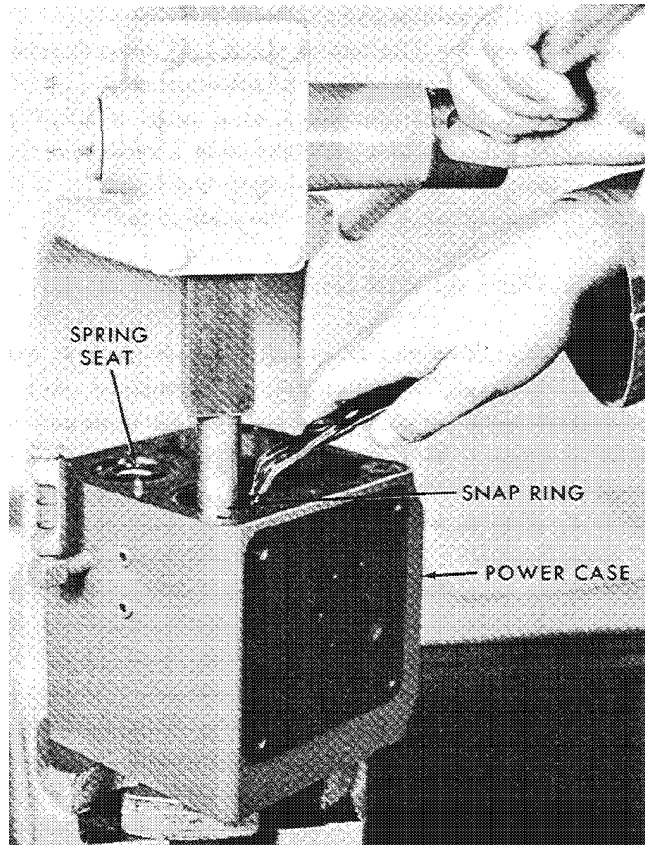

Figure 3-4
6. Remove screws (50) and washers (49). Lift off base (48) taking care that idler gear (45) and drive gear (43) do not fall out. Remove the idler gear and drive gear.
7. Set the power case (32), bottom end (end with idler stud 44) down, in an arbor press or small drill press. With a rod against spring seat (28), compress accumulator springs (29) and (30) to permit removal of upper snap ring (27). See Figure 3-4. Remove spring seat (28) and springs (29) and (30).